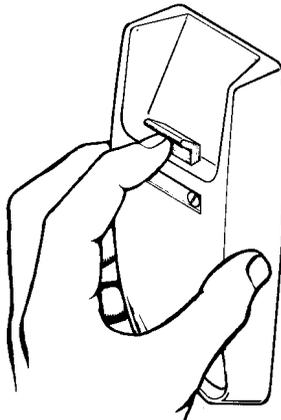

FIGURE 1. Switch Hook Plunger (up)
- b. When positioning the housing on a wall set, avoid damaging the switch hook by holding the plunger up as shown in Figure 1.
- Install the housing as explained in paragraph 2.01 and Figure 1.